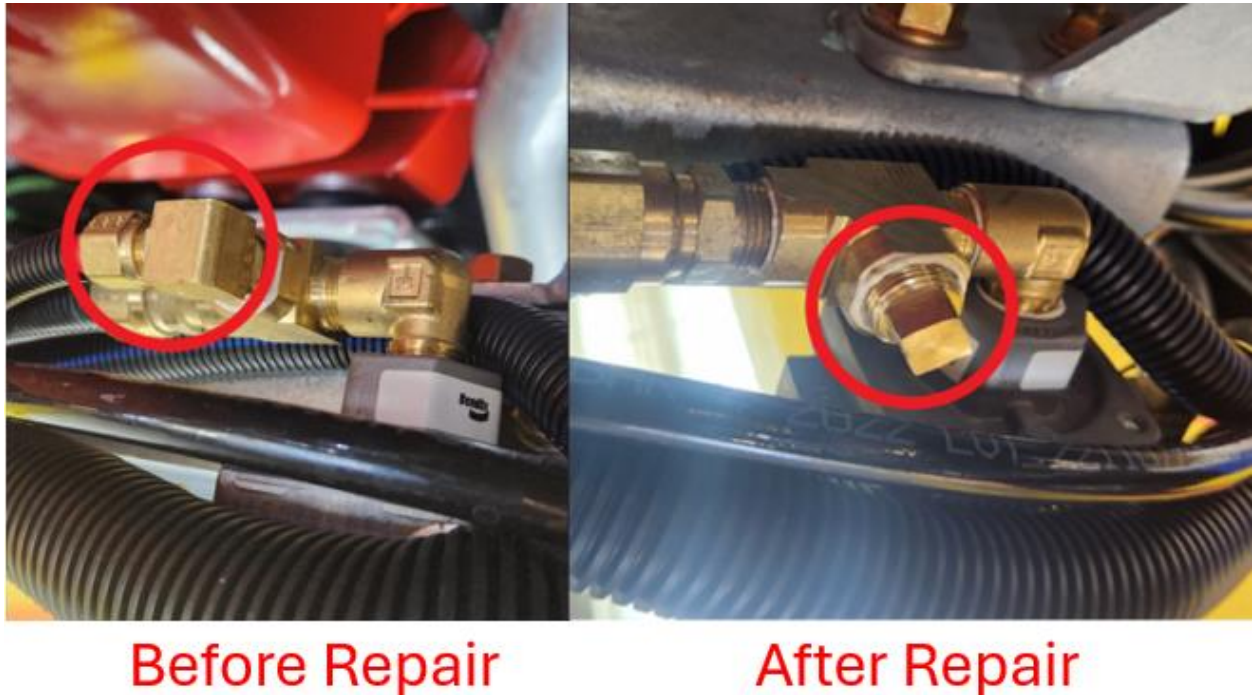

Figure 4.1
6. Remove the size 6 red air-line and fitting from the quick release valve. Install a plug in the open port on the tee. Refer to Figure 4.1